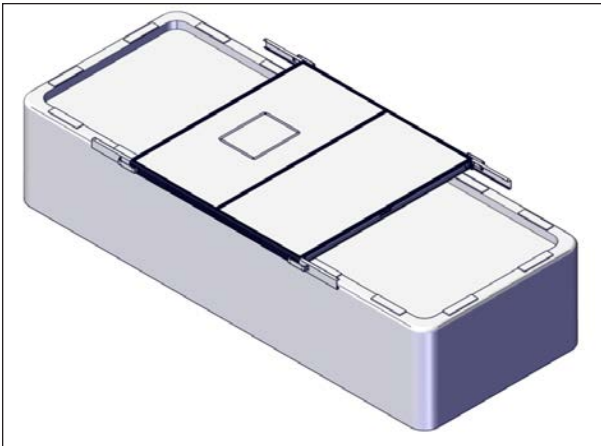

FIGURE 47: INSTALLATION OF THE COVER ON THE SPA
10. If it is not done yet, carefully position the assembled center section of the cover onto the middle of the spa. Try to align the cover as best as possible, see Figure 47.